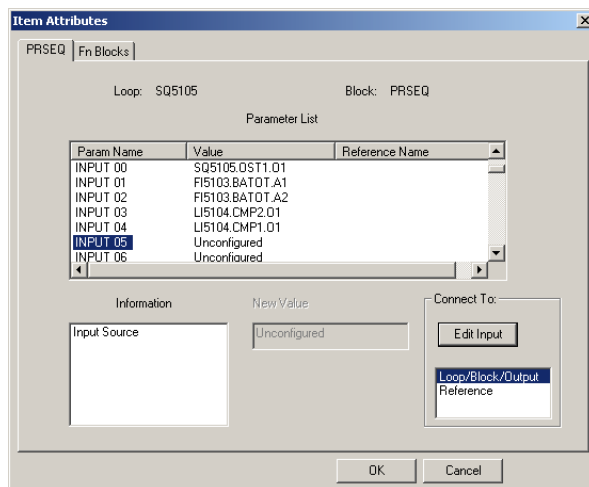

Figure 3-12 Item Attributes dialog in edit input mode
1. Select an input parameter from the Parameter List. The Item Attributes dialog for the edit input parameters mode displays; see Figure 3-12.